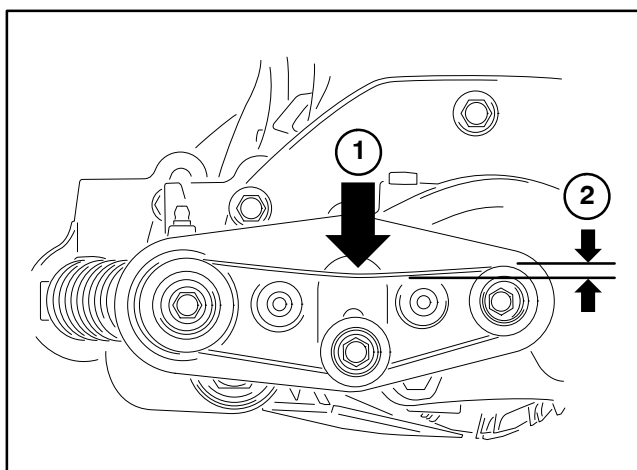

Figure 44
5. To install brush drive belt (item 2):
A. Make sure that idler pulley (item 6) is loose on drive plate.
A. Push down on the idler pulley and secure with cap screw (item 22) and flange nut (item 8). Make sure that cover plate (item 7) is covering the slot in the drive plate to prevent debris from entering the brush drive area.
B. After idler pulley is secured, check that drive belt has approximately 1/4" (6 mm) deflection at the center of the belt with 2 lb (1 kg) of force applied to the belt (Fig. 44).